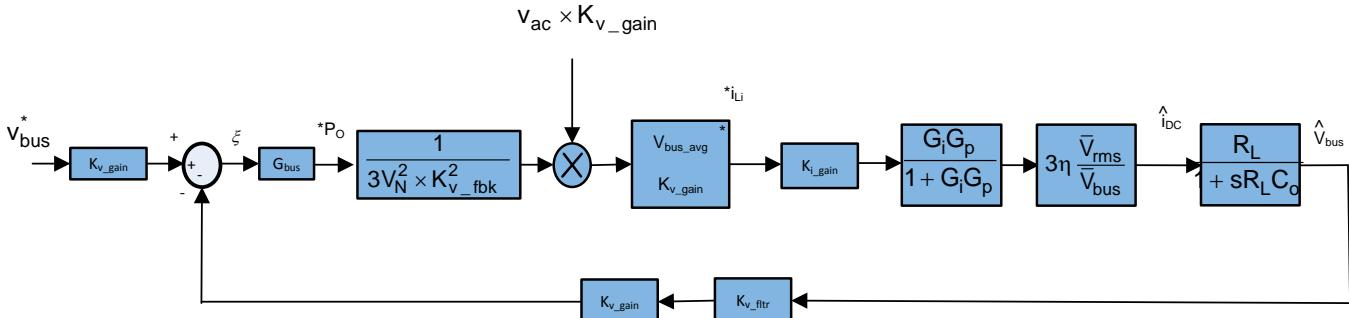

Figure 6. DC Voltage Loop Control Model
The DC voltage regulation loop control model can be drawn, as shown in Figure 6. An additional Vbus feedforward is applied to make the control loop independent of the bus voltage, and, thus, the plant model for the bus control can be written as shown in Equation 5.
Using Figure 6, a proportional integrator (PI) compensator is designed for the voltage loop. The bandwidth of this loop is kept low as it is in conflict with the THD under steady state.